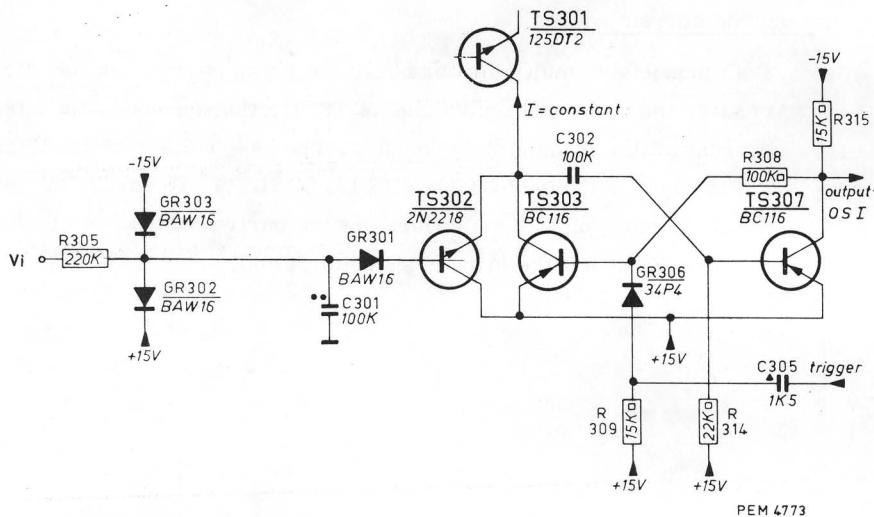

Fig. 14. Monostable multivibrator
1. Monostable multivibrator I (OS_I) Fig. 14